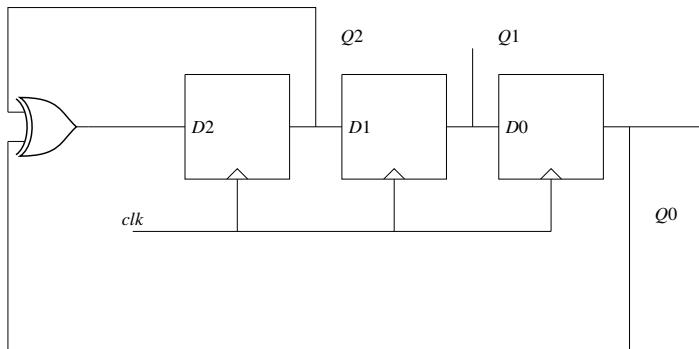

Fig. 5.3: Propagation Delay
2. The Clock (clk) frequency provided to the circuit in Fig. 5.3 is 500 MHz.